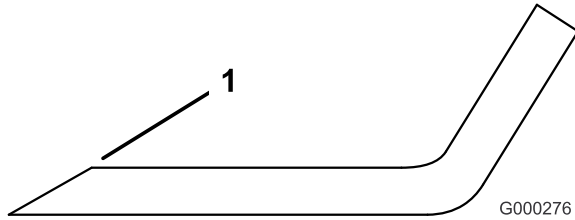

Figure 65
1. Use a file to sharpen the cutting edge at both ends of the blade (Figure 65). Maintain the original angle. The blade retains its balance if the same amount of material is removed from both cutting edges.